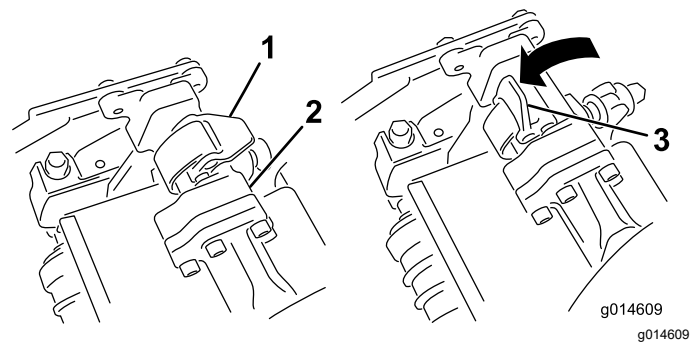
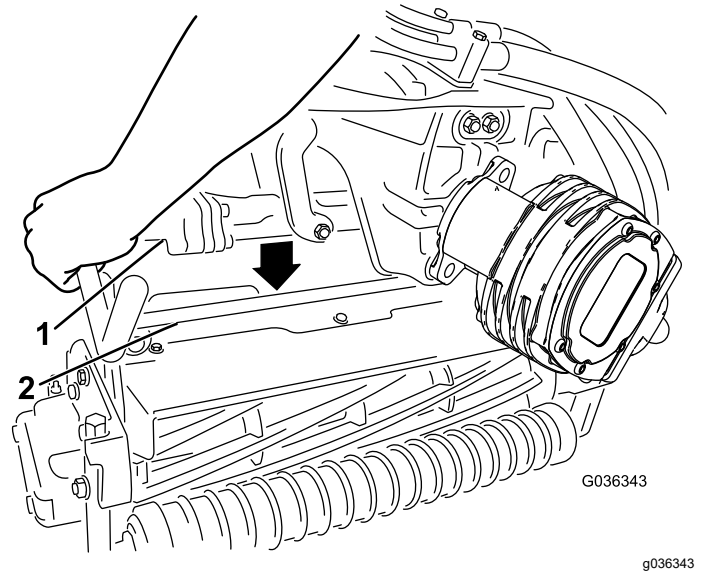

Figure 68
Figure 69
3. Open the latches on the suspension-arm bar (Figure 68) and push the suspension arm down so that the bar fits over both pitch arms on the cutting unit and ensure that the latches go underneath the cutting-unit crossbar (Figure 69).
4. Close the latches down and around the cutting-unit bar and lock them in place (Figure 68).
6. Open the latches on the suspension-arm bar of the cutting unit you are removing (Figure 68).